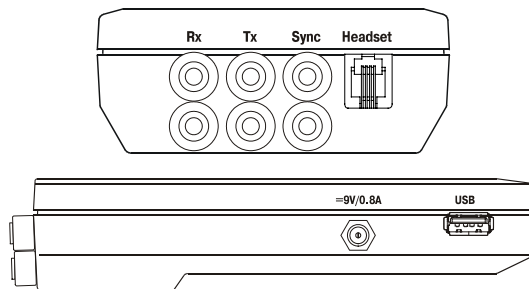

Figure 4.2. „BERcut-E1” external connectors
4.1.4. External connectors of the „BERcut-E1” are shown on the Figure 4.2
7.3. Connect all components to unit according to Figure 4.2 and Table 4.1.